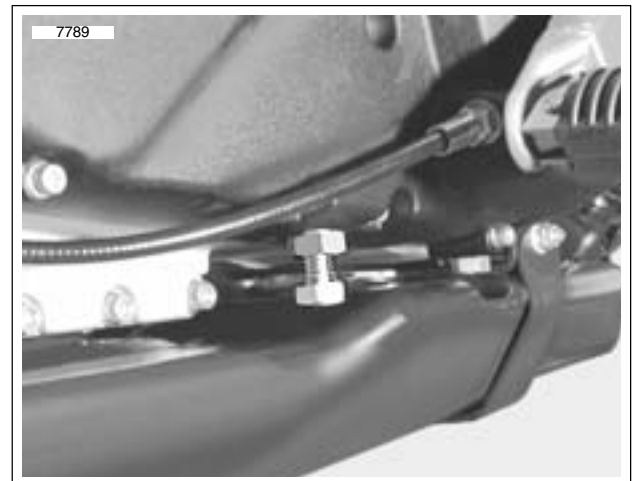

Figure 6-5. Chain Limiting Screw-without Spacer
1. See Figure 6-5. Back-off locknut and chain limiting screw. Remove spacer.